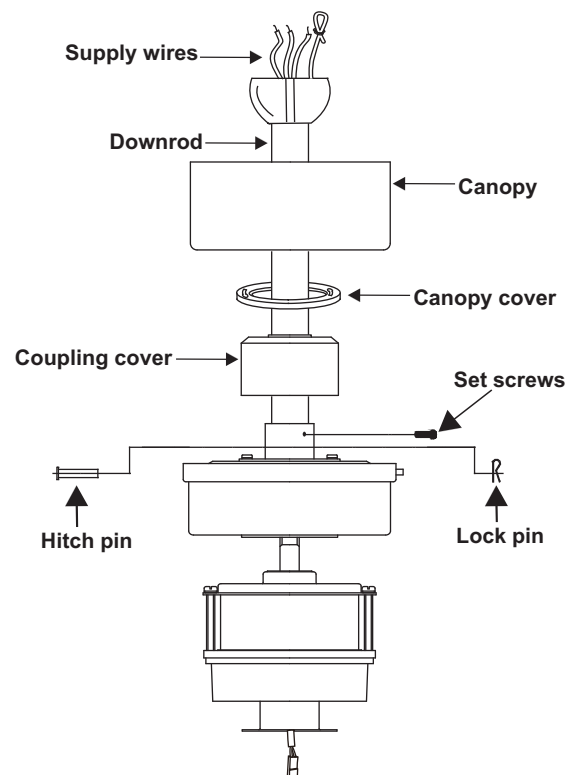

Figure 7
4. Loosen the two set screws and remove the hitch pin and lock pin from the central shaft/top coupling of the motor assembly. Doing so will allow the down rod to enter the central shaft. (Fig. 7)
5. Route wires exiting from the top of the fan motor through the coupling cover, canopy cover and canopy and then through the ball/downrod. (Fig. 7)
6. Align the holes at the bottom of the downrod with the holes in the collar on top of the motor housing. Carefully insert the hitch pin through the holes in the collar and downrod. Be careful not to jam the pin against the wiring inside the downrod. Insert the lock pin through the hole near the end of the hitch pin until it snaps into its locked position. (Fig. 7)